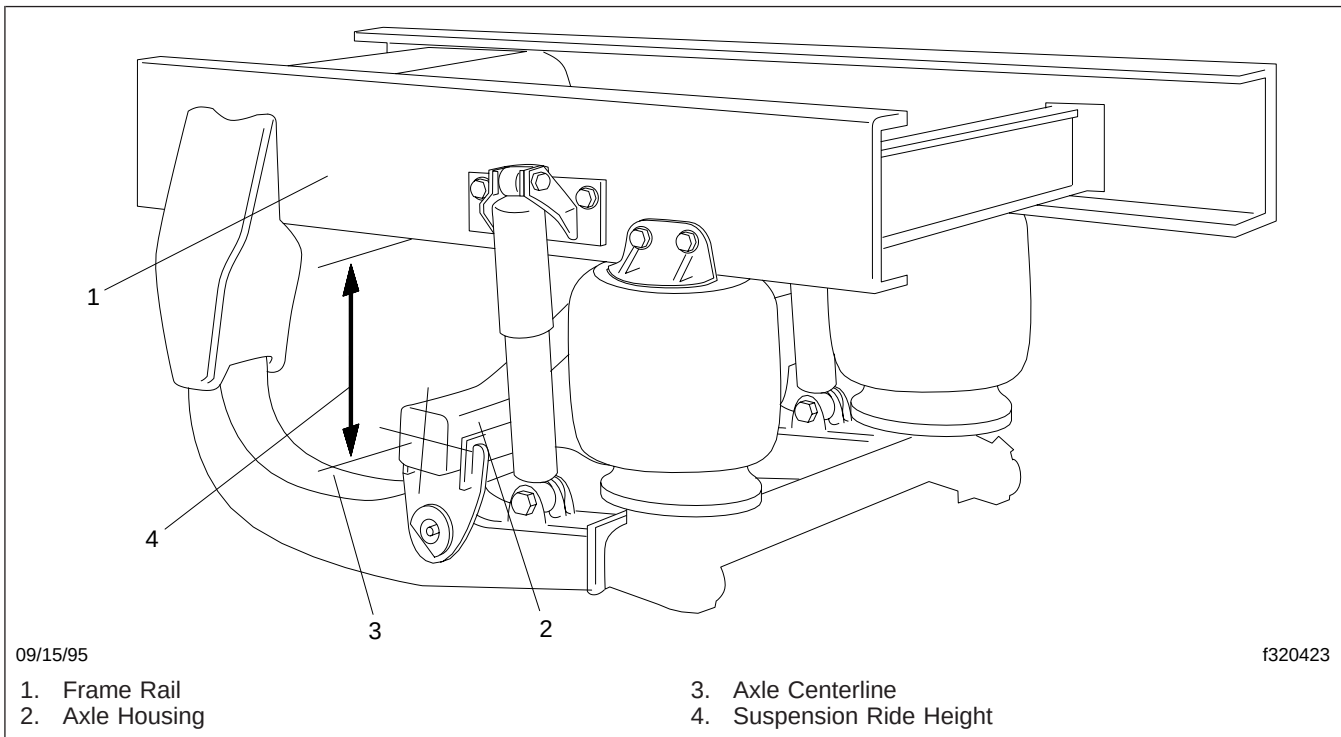

Fig. 13, Neway Ride Height Inspection
5. Check the riding height of the air suspension by measuring the distance from the centerline of the rear axle (see **Fig. 13**) to the bottom of the frame rail. If the riding height is incorrect, adjust the air suspension.